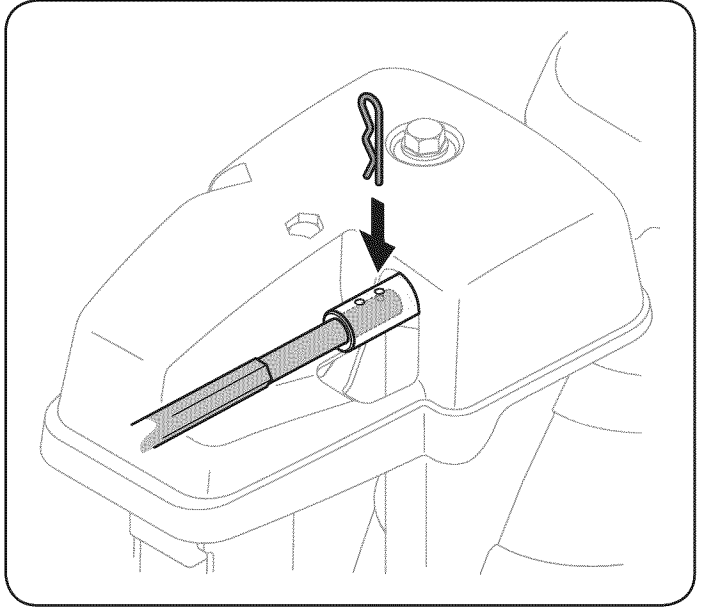

Figure 8
8. Now push the round end of chute rod back towards the handle panel until the hole in the rod lines up with the hole in the chute control input closest to the chute control head. Insert the cotter pin. See Figure 8.